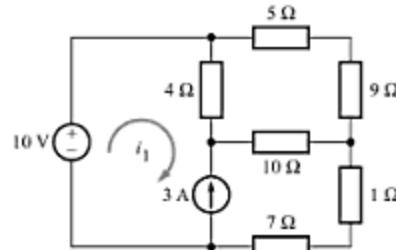

Fig. A-117
- A-84. Determine the current  $i_1$  in the circuit of Fig. A-117.